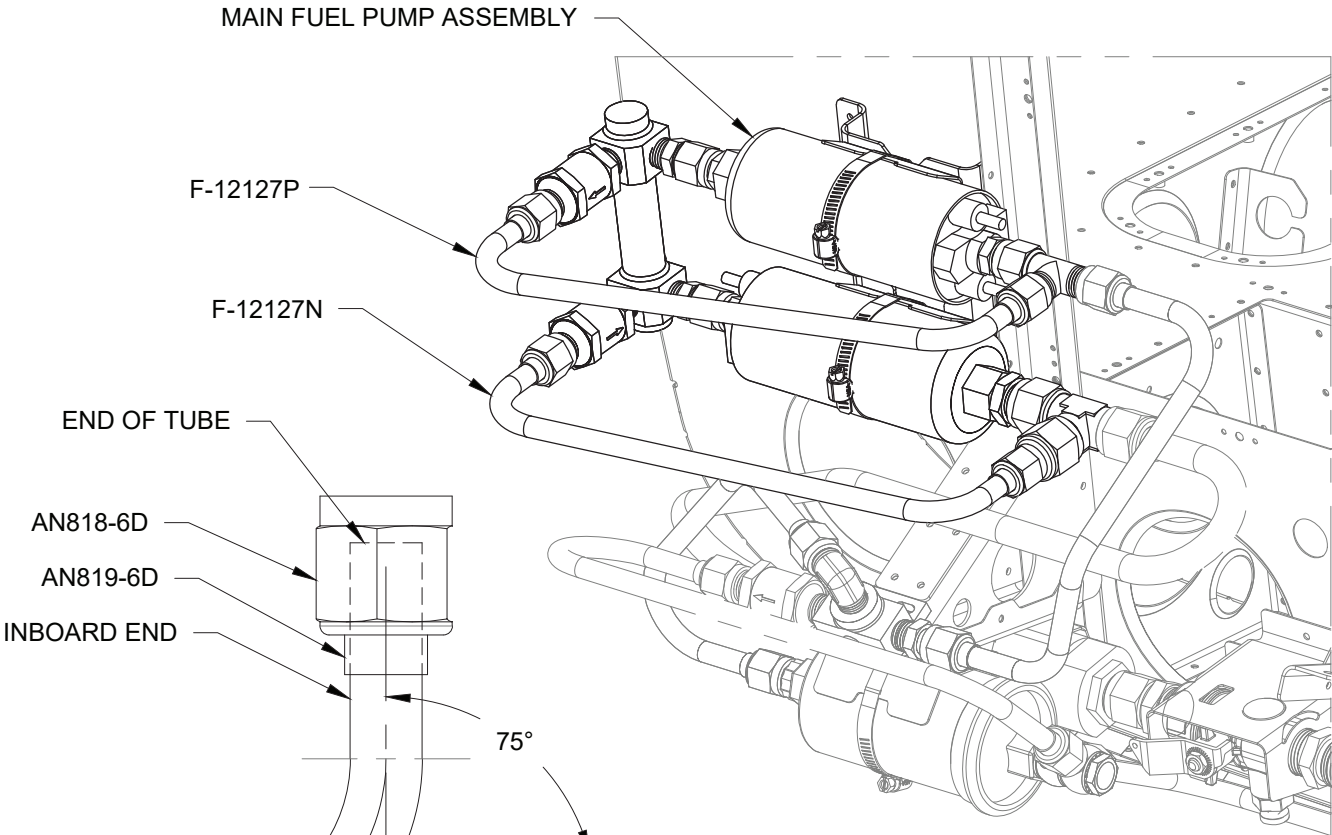

FIGURE 3: F-12127P AND F-12127N INSTALLATION
Step 4: Attach the F-12127P to the Main Fuel Pump Assembly* as shown in Figure 3.
Step 8: Attach the F-12127N to the Main Fuel Pump Assembly* as shown in Figure 3.